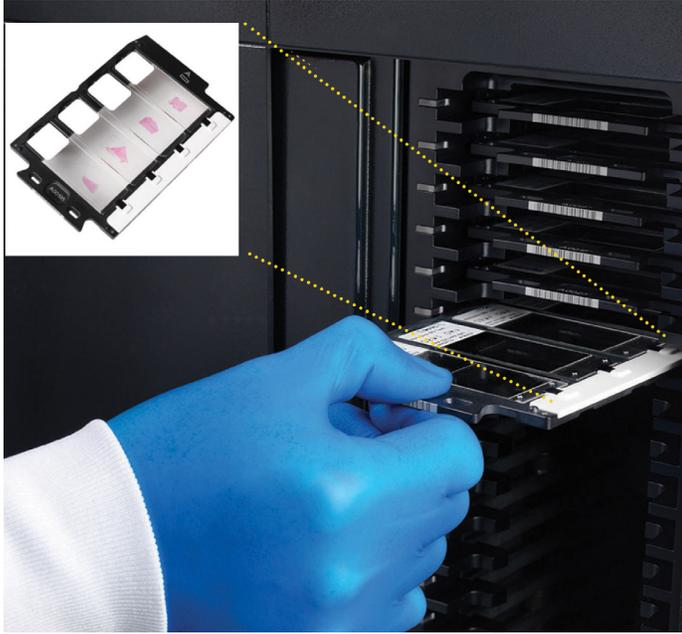

Figure 3. Phenolmager HT slide carrier and slide hotel.
- Utilization of touchless automation and unique 4-slide carriers ensures the security and stability of every sample (Figure 3)